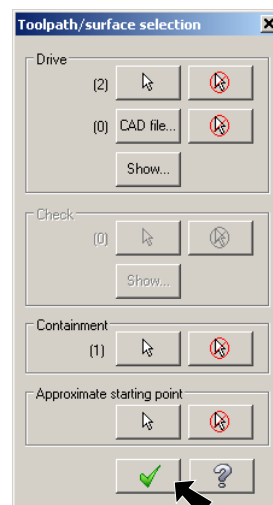

Fig. 10
Step 8. Click OK in the Toolpath/surface selection dialog box, Fig. 10.